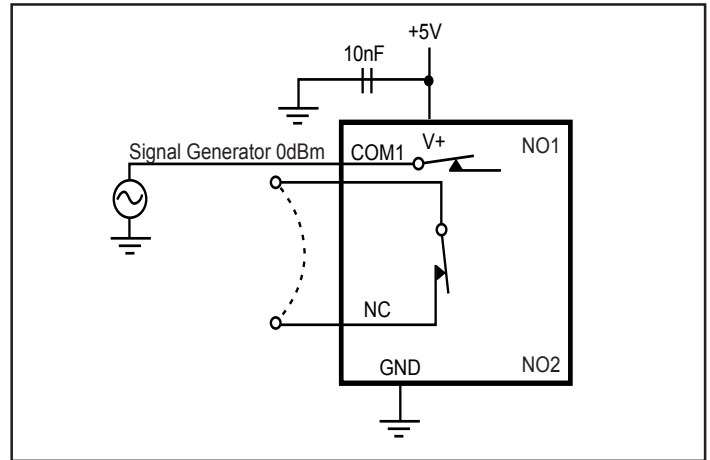

Figure 4. Crosstalk
- Between any two switches. See Figure 4.